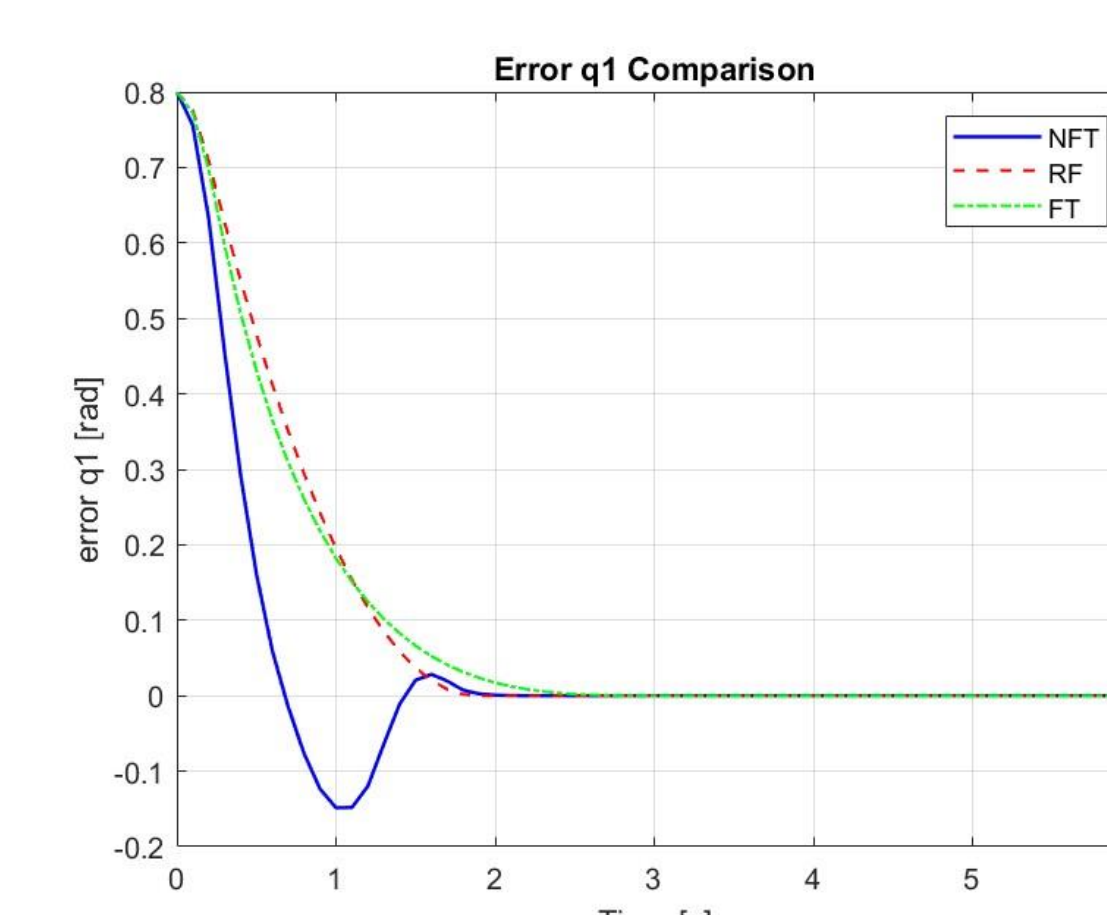

Figure 6. Joint 1 error vs. time
- Figure 6 and 7 respectively show the joint 1 error and the joint 2 error vs. time.